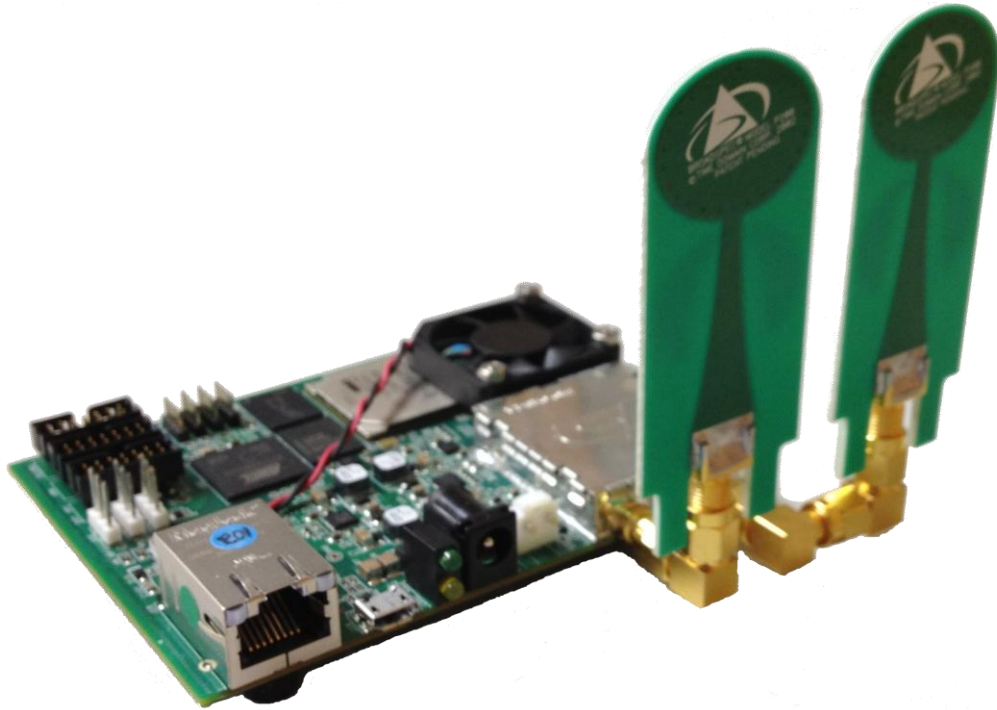

Fig. 1: P400 MRM with both antennas connected and extra right-angle connector on Port A
2. Attach one Broadspec antenna to the SMA port “A” and one Broadspec antenna to the SMA port “B”. A right-angle male-female SMA connector has been provided that will allow you to separate the two antennas and turn them so that they are side by side facing the same direction (see **Figure 1**). Port “A” will be used for transmit functions, and Port “B” will be used for receive functions. This is the default antenna configuration (the user may change this in MRM-RET or through an API command). The Broadspec antennas are omnidirectional in the horizontal plane. The specification sheet for the Broadspec antenna can be found on the P400 MRM page (www.timedomain.com/p400mrm.php) of the Time Domain website.